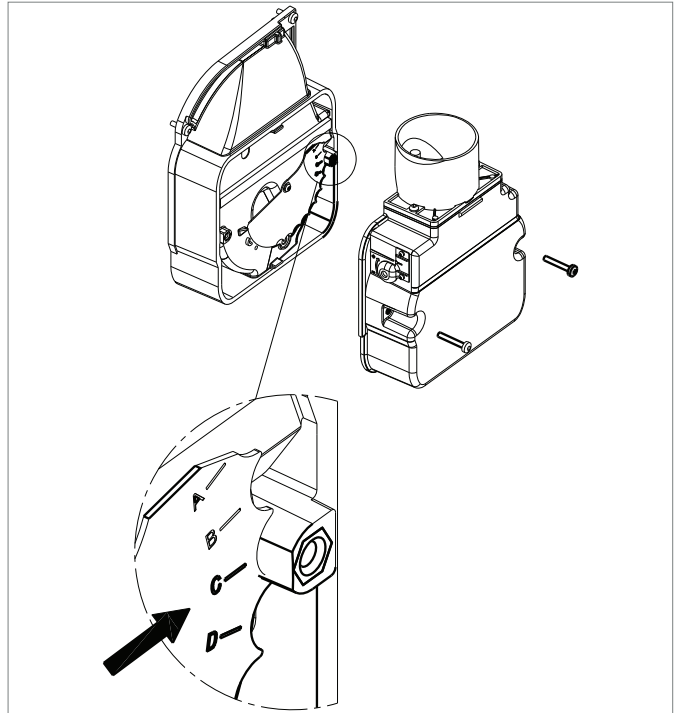

Figure 10-11: Air adjuster disc
It is essential, for correct operation of the burner, that this internal air adjuster disc is correctly set. Refer to Figure 10-11.
4. The air adjuster disc is mounted on the fan housing. Refer to Figure 10-11.